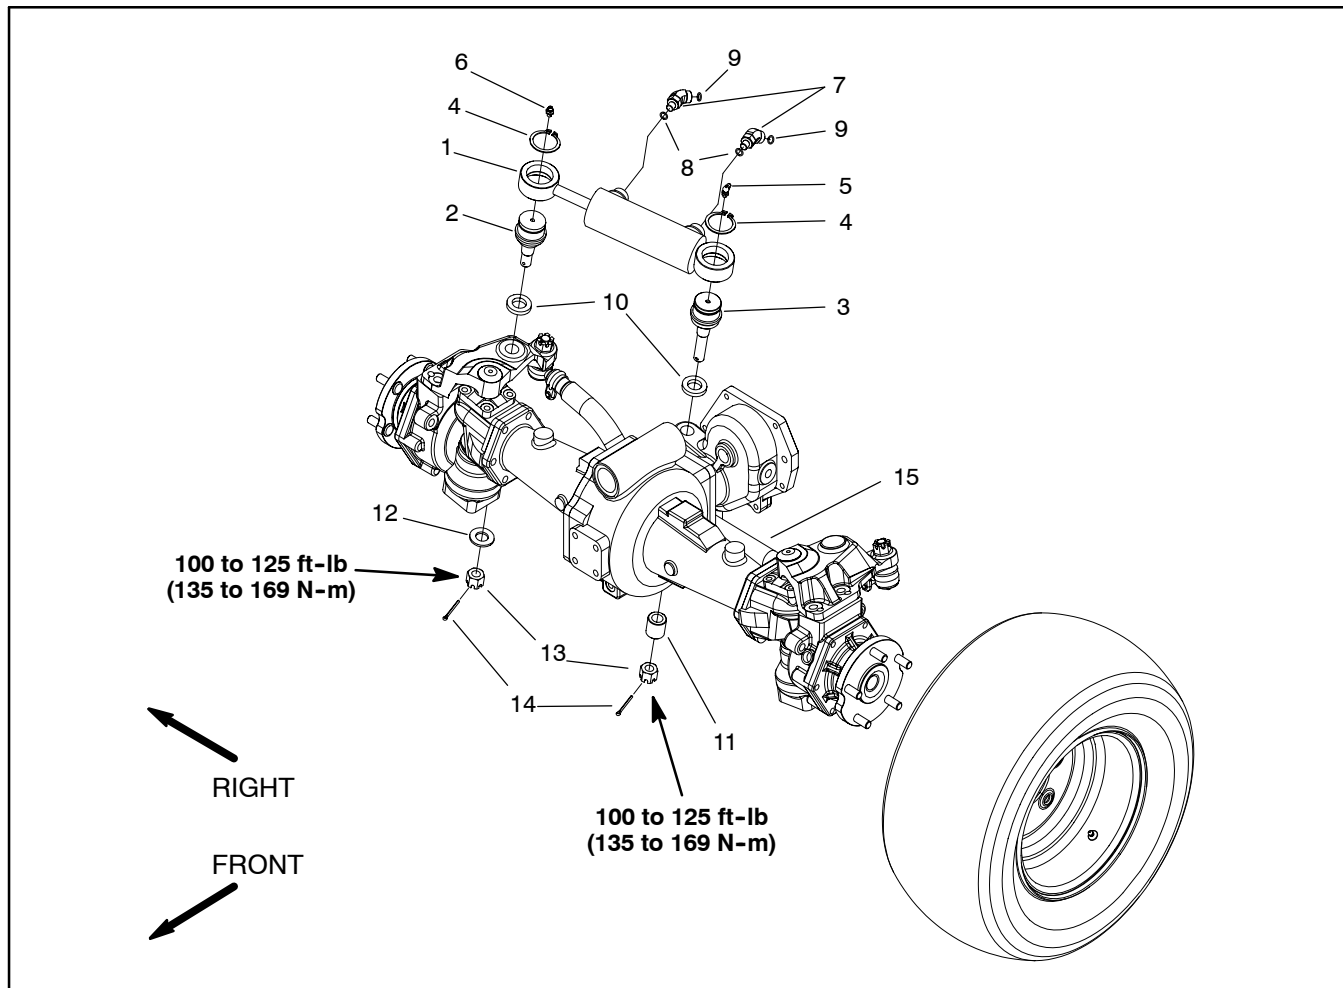

Figure 81
4. Remove cotter pins, hex slotted nuts, axle washer, and ball joint spacer from the threaded ends of ball joints (Fig. 81). Remove steering cylinder with ball joints from machine. Locate and retrieve ball joint spacers from top of axle assembly.